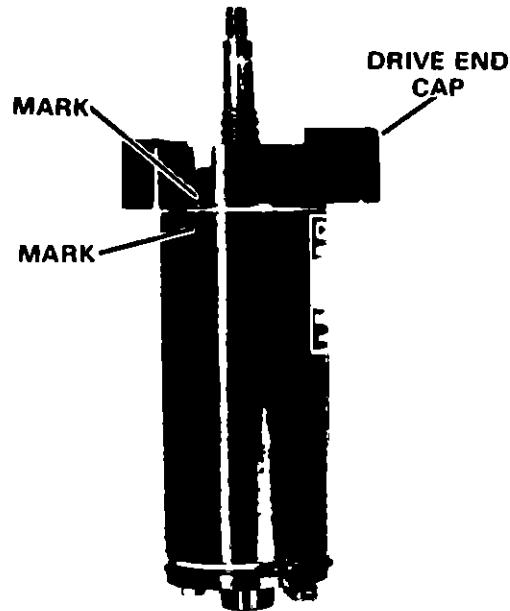

Figure 57. Reassembly of Starter Motor.
- 3 Assemble armature to body. Align the mark on the body to the mark on the drive end cap. Figure 57.